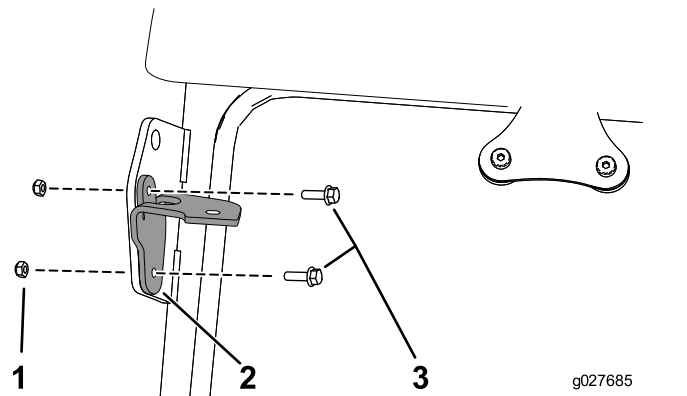

Figure 2
1. Secure the right mount to the front, right lifting point of the cab using 2 bolts (M6) and 2 nuts (Figure 2).
2. Secure the left mount to the front, left lifting point of the cab using 2 bolts (M6) and 2 nuts (Figure 2).